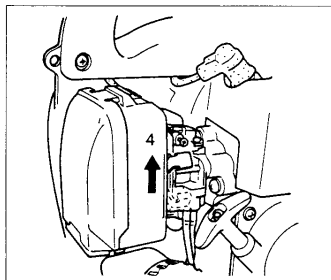

Fig. 2-4
2. Set choke lever to CLOSED position (4). Fig. 2-4, 4B